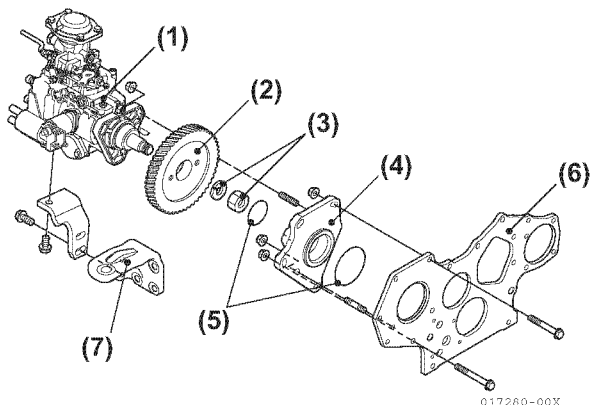

Figure 6-27
9. Remove the fuel injection pump and O-ring from the gear case flange (for 3JH4E and 4JH4AE.) Remove the fuel injection pump and O-ring from the VE pump bracket, which is attached to the gear case flange (4JH4-TE and 4JH4-HTE) (Figure 6-27).